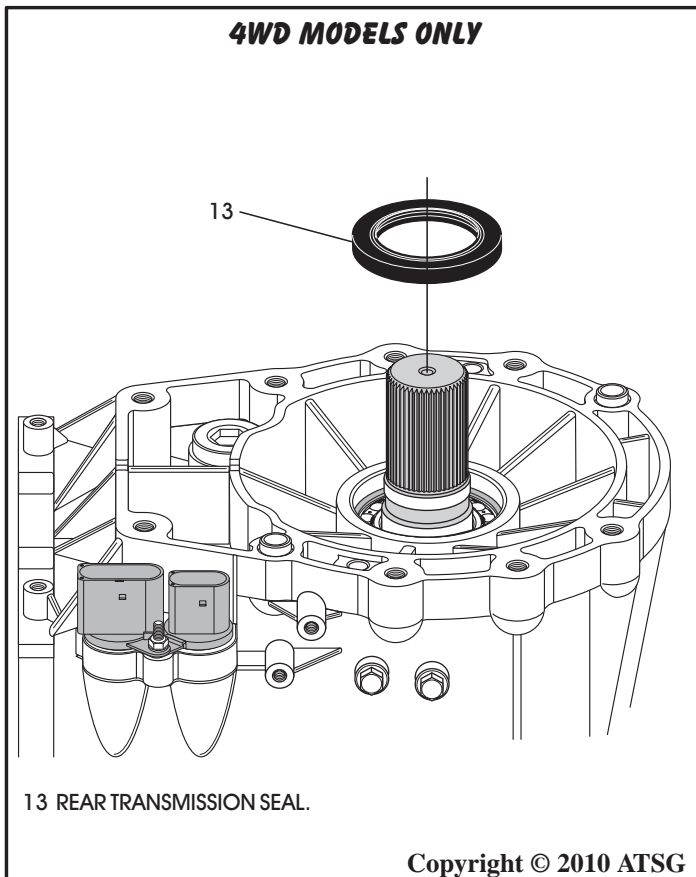

Figure 43
11. If you are working on a 4WD model, you can remove the rear seal now or you can wait until you have the output shaft out as it is easier to remove at that point (See Figure 43).